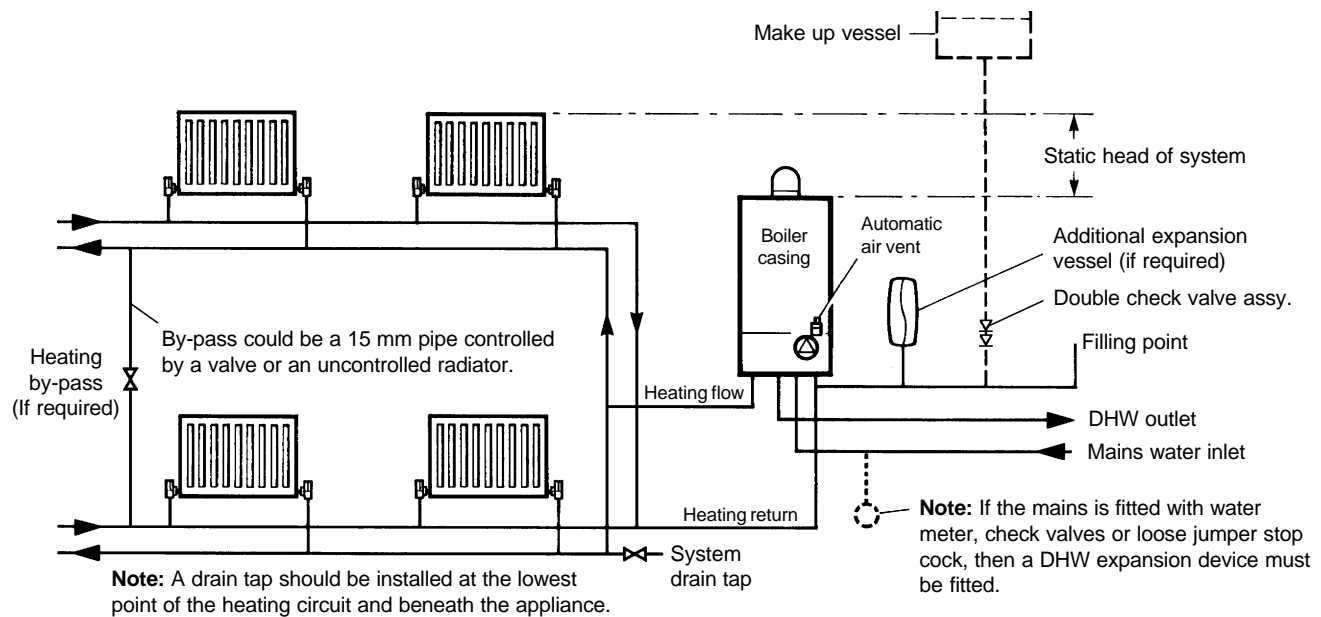
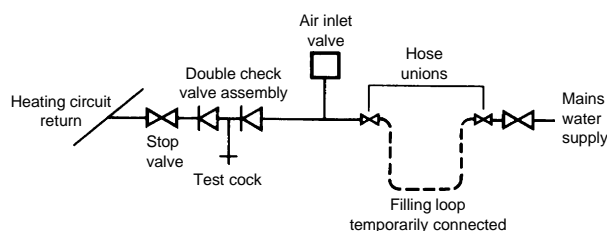
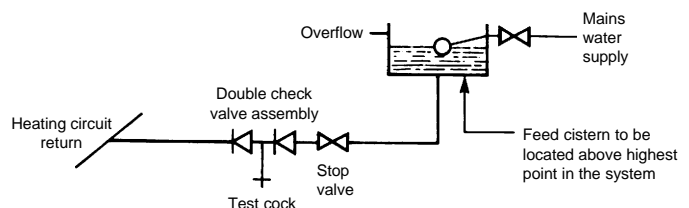

Fig. 6
Fig. 7
Fig. 8
3.7 CENTRAL HEATING SYSTEM - Fig. 6
System volume - The expansion vessel incorporated into the boiler is suitable for a sealed heating system with a maximum water content of 80 litres (18 gal). Above that, consideration should be given to fitting an additional expansion vessel fitted in the position shown in Fig. 6. To check correct operation of the expansion vessel(s) the system pressure should not be more than 2.5 bar when the system is at maximum operating temperature (for further guidance refer to BS 7074:1).
3.8 FILLING THE CENTRAL HEATING SYSTEM - Figs. 7, 8
The system design pressure (cold) should be set to 1.0 bar. This pressure is equivalent to a static head (see Fig. 6) of 10.2 metres of water. Provision should be made to replace water lost from the system. This can be by manual or automatic means, as shown in Figs. 7 and 8. The position for connecting an automatic make-up vessel is indicated in Fig. 6. A double check valve assembly must be used, as shown in Fig. 8.
Filling of the system must be carried out in a manner approved by the local Water Undertaking. Where allowed, the system may be filled via a temporary connection as shown in Fig. 7. After filling, always disconnect the flexible hose of the filling loop.